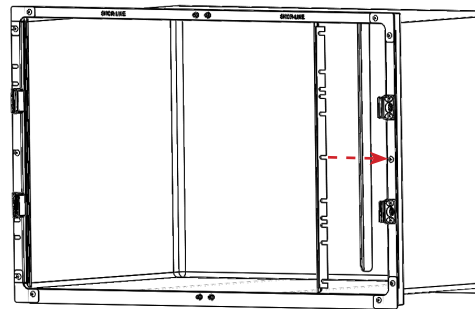

FIGURE 2.16 - Right Jamb Seal Installation
**STEP 3:** Repeat STEP 2 for the opposite side jamb seal. See FIGURE 2.16